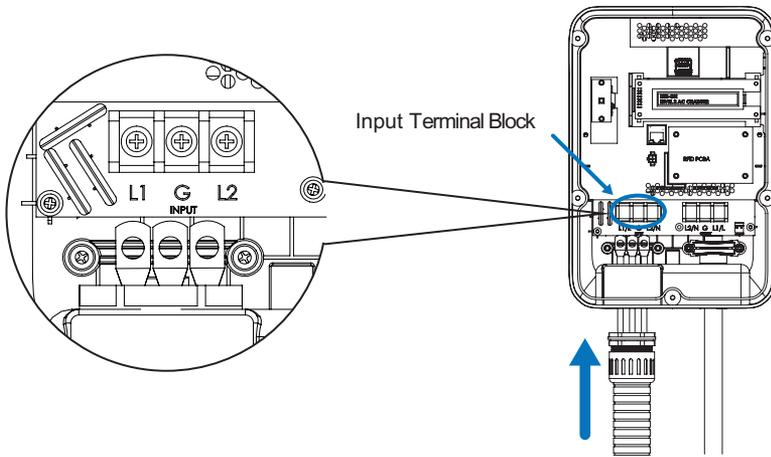

Figure 2-10 Input wiring
- 4.4 Insert the wire and attach to the terminal block as shown in Figure 2-10